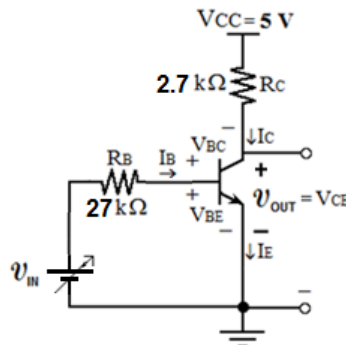

Figure 1 The Common Emitter Circuit.
For the CE circuit shown in Fig. 1,
1. Connect the circuit shown in Fig. 1. Fix V_{CC} at 5 V and vary V_{IN} to obtain the V_{OUT} values shown in Table 1. For each value of V_{OUT} measure V_{BE} and V_{IN} .